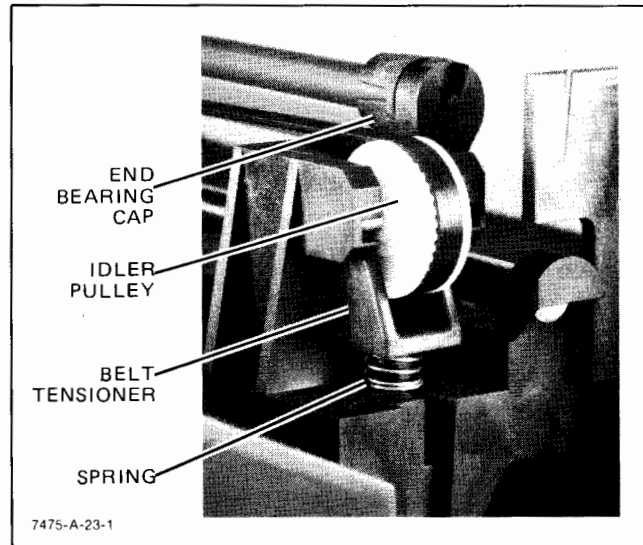

Figure 6-14. Pen Drive Belt Tensioner
- c. Remove the belt tensioner by pressing downward on the tensioner and sliding the tang at the bottom out of the slot in the chassis. See Figure 6-14.
- f. Remove the end bearing cap while sliding the pen lift bar to the right and out of the carriage assembly. See Figure 6-14. (To replace the end cap on the lift bar, merely slide the cap onto the bar.)